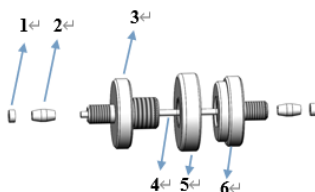

Fig 1. Schematic diagram of LJ02 connector
3.1 The protective cap in the Figure 1 is only used to prevent the loss of the ferrule during transportation. It should be removed before use.